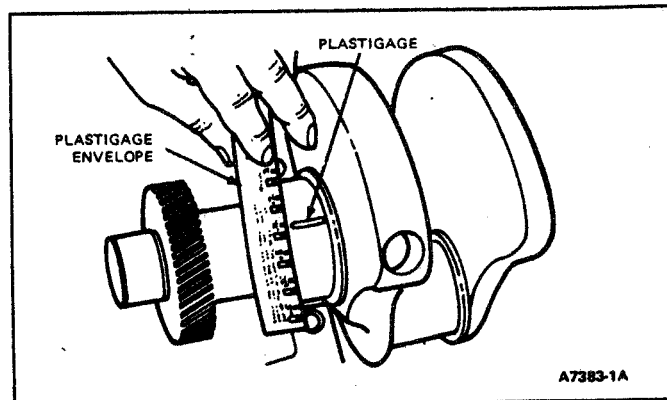

FIG. 76 Checking Main Bearing Clearance
5. Do not disturb Plastigage. Using Plastigage envelope, measure widest point of Plastigage (Fig. 76). Reading indicates bearing clearance in thousandths of an inch.